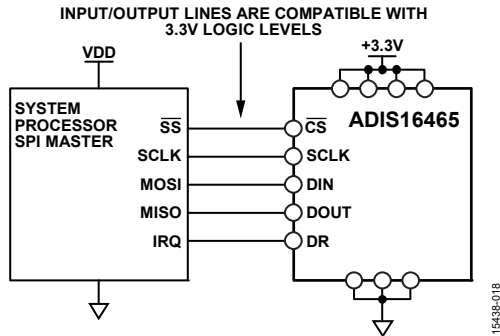

Figure 26. Electrical Connection Diagram
The SPI provides access to the user registers (see Table 8). Figure 26 shows the most common connections between the ADIS16465 and a SPI master device, which is often an embedded processor that has an SPI-compatible interface. In this example, the SPI master uses an interrupt service routine to collect data every time the data ready (DR) signal pulses.